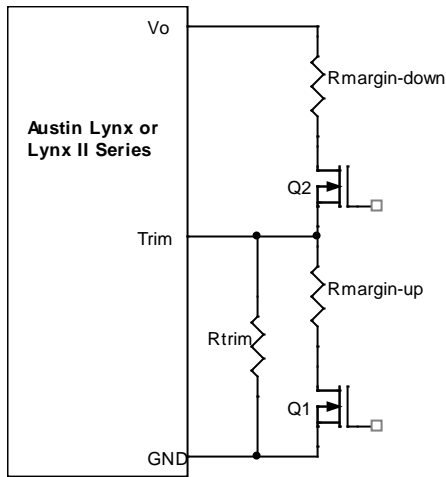

Figure 31. Circuit Configuration for margining Output voltage.
To provide over temperature protection in a fault condition, the unit relies upon the thermal protection feature of the controller IC. The unit will shutdown if the thermal reference point T_{ref2} , (see Figure 31) exceeds $150^{\circ}C$ (typical), but the thermal shutdown is not intended as a guarantee that the unit will survive temperatures beyond its rating. The module will automatically restarts after it cools down.
Output voltage margining can be implemented in the Austin MicroLynx™ modules by connecting a resistor, $R_{margin-up}$, from Trim pin to ground pin for margining-up the output voltage and by connecting a resistor, $R_{margin-down}$, from Trim pin to Output pin. Figure 31 shows the circuit configuration for output voltage margining. The POL Programming Tool, available at www.gecriticalpower.com under the Design Tools section, also calculates the values of $R_{margin-up}$ and $R_{margin-down}$ for a specific output voltage and % margin. Please consult your local GE technical representative for additional details.